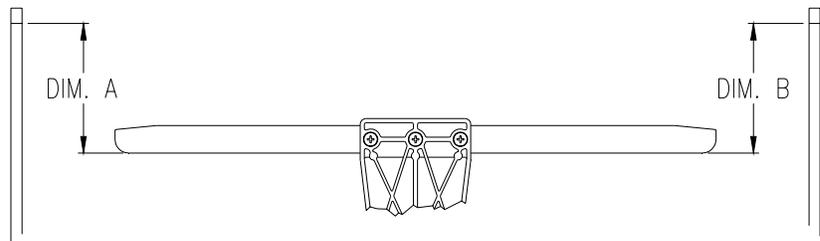

Figure 7-33: Side Clamp T-bar Leveling
4. Lay a straightedge across the machine frame. At one end of the T-bar, measure the distance from the bottom of the straight edge to the bottom of the T-bar (DIM. A). Repeat this procedure at the opposite end of the T-bar (DIM. B). See Figure 7-33.